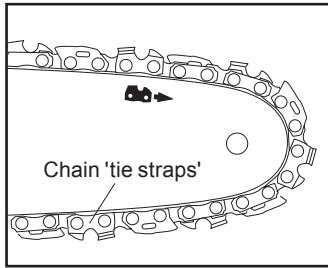

Fig. 6
1. Place the product on a suitable flat surface with the chain saw cover (12) facing towards you.
2. Check the chain tension using one hand to lift the saw chain (8) against the weight of the product. The correct chain tension is achieved when the saw chain can be lifted by approximately 2 - 4 mm from the guide bar (9) in the centre (Fig. 6, 7).